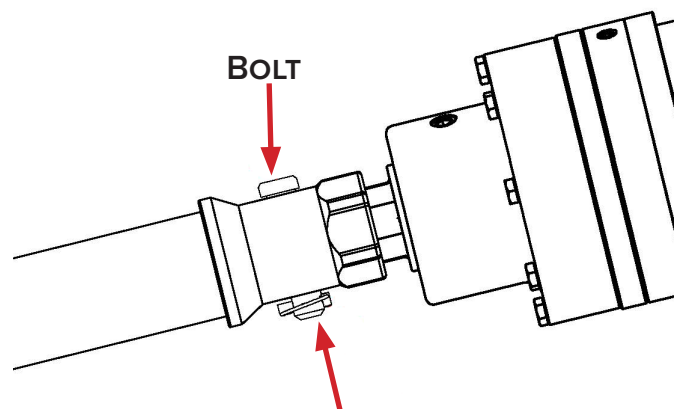

Figure 3
4. Insert the bolt through the auger bit/extension and through the output shaft. Tighten the nut per torque values on page 44. See Figure 3.